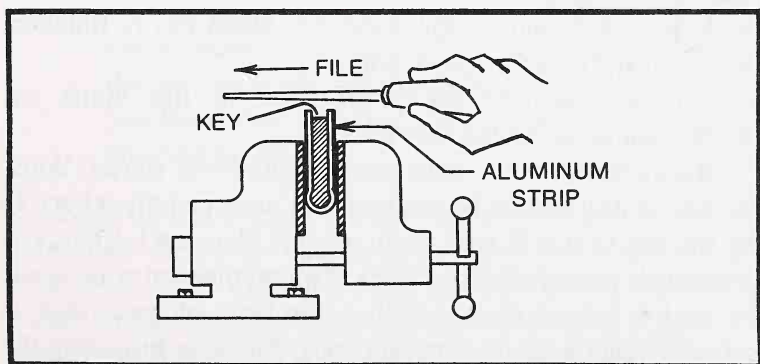

Fig. 5-2. File into the aluminum strip in the direction shown.
2. Wrap a strip of aluminum, approximately $1\frac{1}{2} \times 2\frac{1}{4}$ or $2\frac{1}{2}$ in. about the pin and bit of the original key with one edge against the collar (Fig. 5-2).